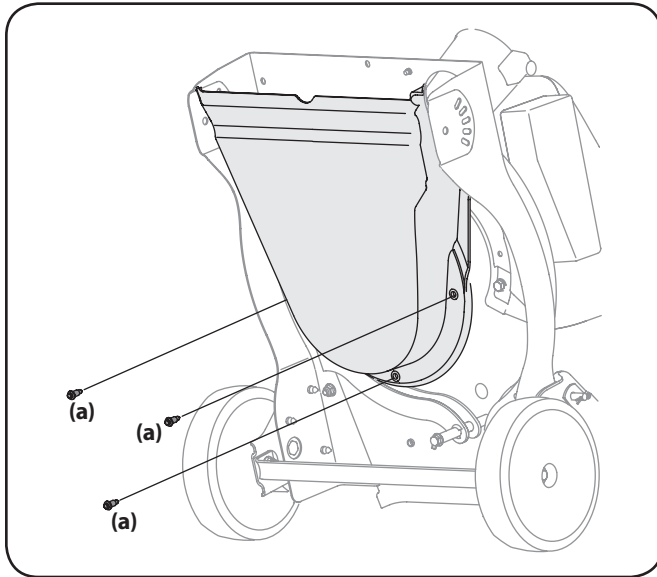

Figure 7-4
- Carefully tilt and support the unit up to provide access underneath to the nozzle mounting hardware and impeller. Remove the three shoulder bolts (a) securing the black plastic lower flail housing to the lower housing. Refer to Figure 7-4.